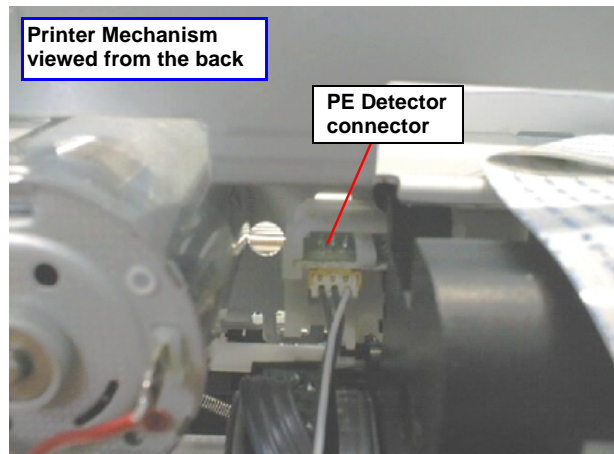

Figure 4-61. Removing the PE Detector connector
- 5) Disconnect the PE Detector connector from the PE Detector Circuit Board. Refer to Figure 4-61.